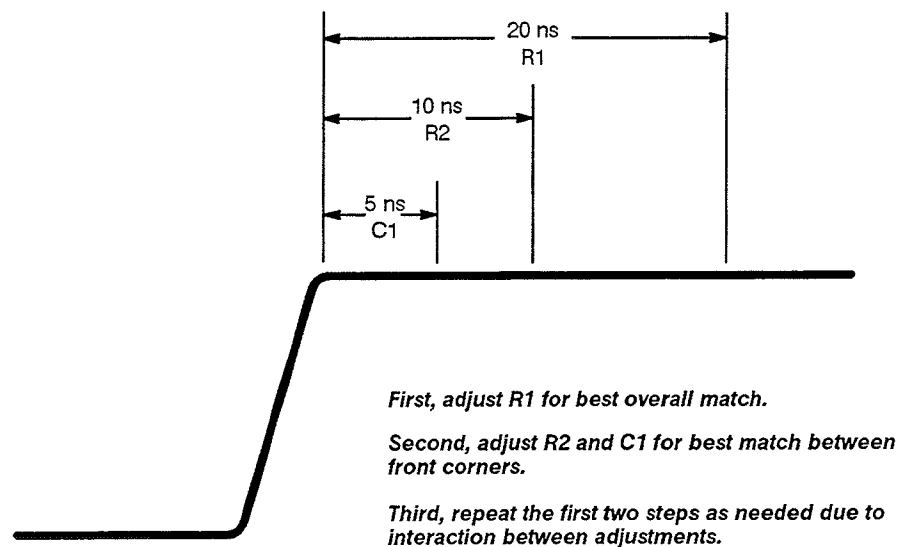

Figure 5-10: Adjustments versus Front-Corner Response
- See Figure 5-10 to see what areas on the front corner that the various adjustments affect.